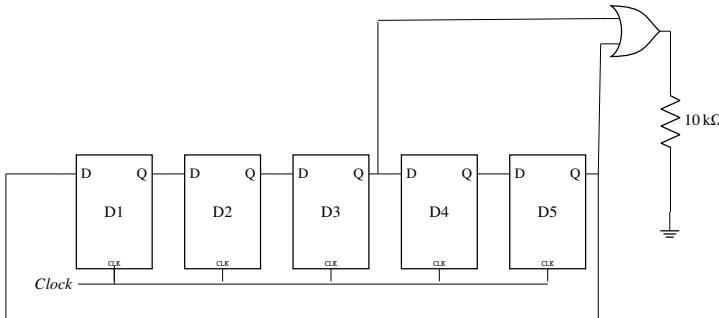

Fig. 5.23
23. Assume that all the digital gates in the circuit shown in Fig. 5.23 are ideal, the resistor  $R=10k\Omega$  and the supply voltages is 5V. The D flip-flops  $D_1, D_2, D_3, D_4$  and  $D_5$  are initialized with logic values 0, 1, 0, 1, and 0, respectively. The clock has a 30% duty cycle. The average power dissipated in the resistor  $R$  is \_\_\_\_\_. (GATE EC 2016)